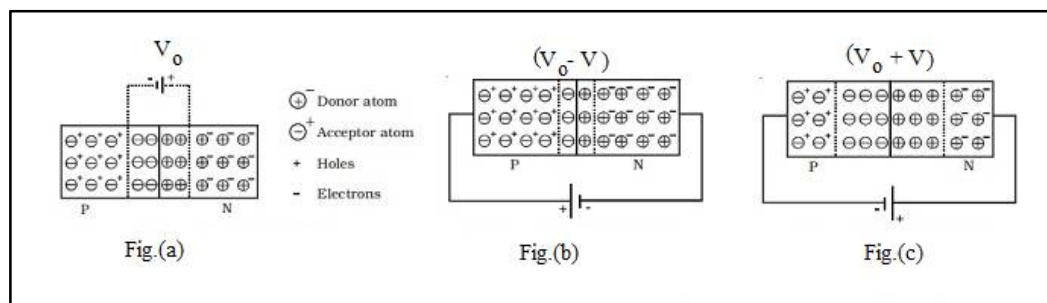

Fig.2.3 (a) Unbiased diode (b) Forward biasing (c) Reverse biasing
- The oppositely charged ions produces **electric field E** at the junction directed as shown in fig. 2.3(a).
- The potential barrier reduces by value $(V_o - V)$ as shown in fig. 2.3(b).
(2) Reverse biasing:
- The potential barrier increases to $(V_o + V)$ as shown in fig. 2.3(c).